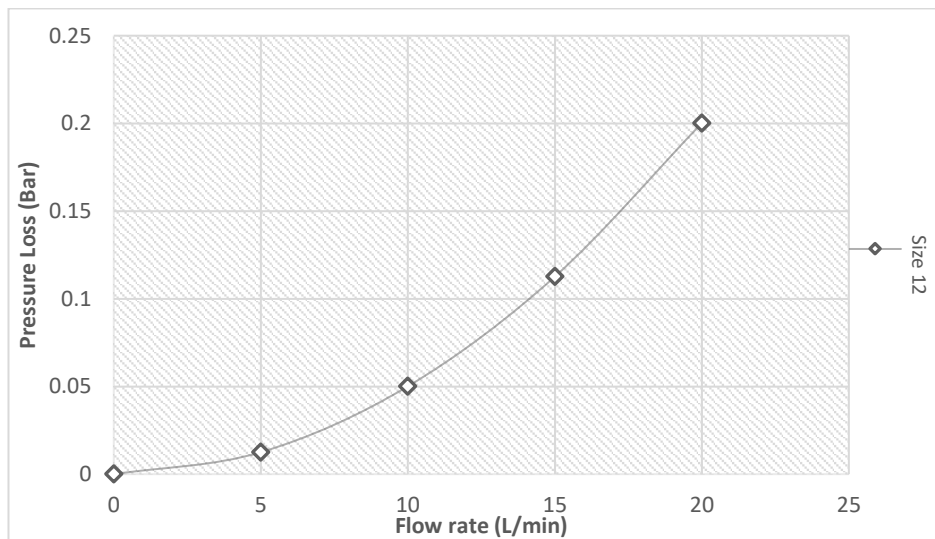
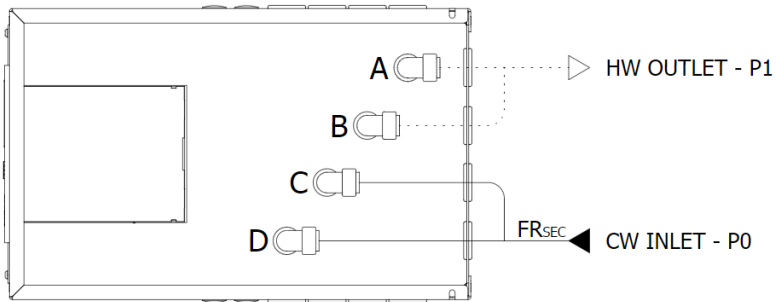

Figure 6.4: UniQ eHW 12 +iPV Heat Battery pressure loss characteristics graph
Figure 6.6: Pressure loss at inlet & outlet of the UniQ eHW 12 +iPV
**UniQ eHW 12 +iPV** has combined ports both for the inlet cold mains water (C&D) and hot water outlet (A&B) as shown schematically in (Figure 6.6). The pressure loss values for this model can be read in (Figure 6.4).